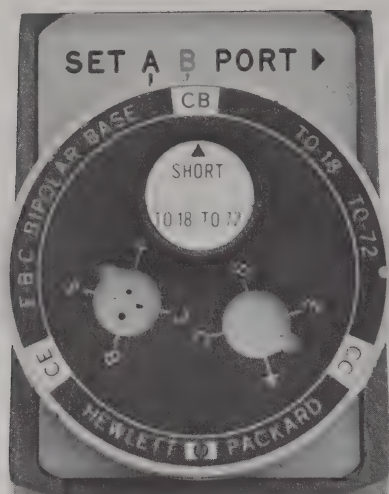

Figure 3-8. Correct Position of Snap-on Dial when Using Calibrator
CALIBRATION DESCRIPTION. Calibration consists of obtaining a reference indication using a termination of known magnitude and phase angle. Magnitude and phase reference indications for calibration are given in Table 3-2. An open circuit is obtained by not plugging anything into the transistor fixture. Calibrators, either a short, through section, or a 50-ohm load, may be used for more accurate calibration. If a calibrator is used, see Figure 3-8 for proper positioning of fixture snap-on dial and calibrator. For normal calibration, only one s parameter with only one of the known terminations is needed. Calibration for greater accuracy is discussed in Paragraph 3-18.
3. Insert the calibrator to be used (Figure 3-8), and select the appropriate s parameter (See Table 3-2).
CALIBRATION DESCRIPTION. Calibration consists of obtaining a reference indication using a termination of known magnitude and phase angle. Magnitude and phase reference indications for calibration are given in Table 3-2. An open circuit is obtained by not plugging anything into the transistor fixture. Calibrators, either a short, through section, or a 50-ohm load, may be used for a more accurate calibration. If a calibrator is used, see Figure 3-8 for proper positioning of fixture snap-on dial and calibrator. For normal calibration, only one *s* parameter with only one of the known terminations is needed. Calibration for greater accuracy is discussed in Paragraph 3-18.
4. Connect the calibrator to be used. (See Figure 3-8.)